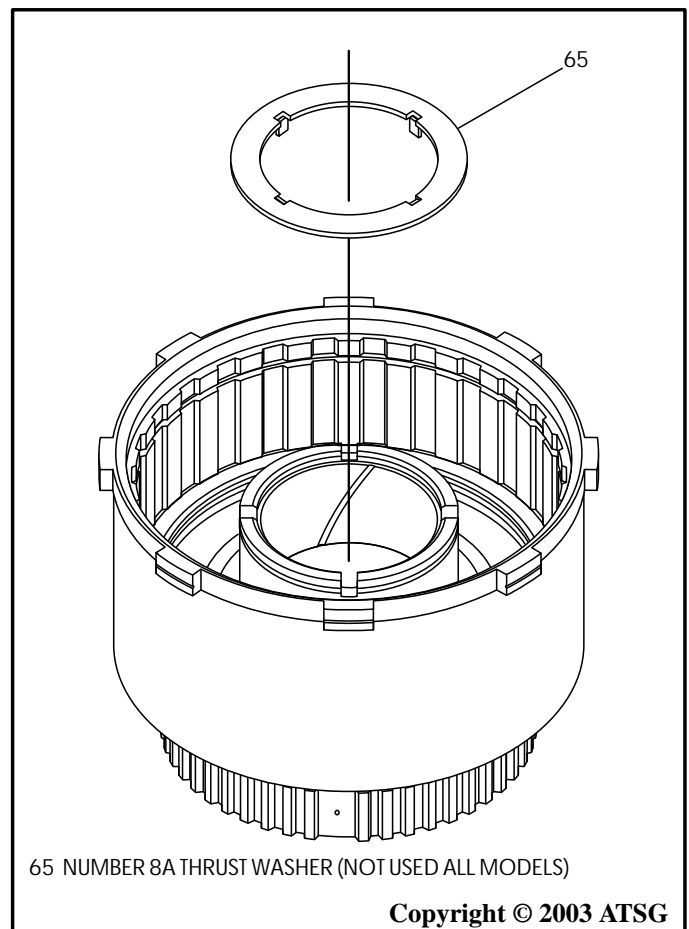

Figure 119
17. Install the number 8A thrust washer at this time if your unit requires one because of the early style sun shell (See Figure 119)